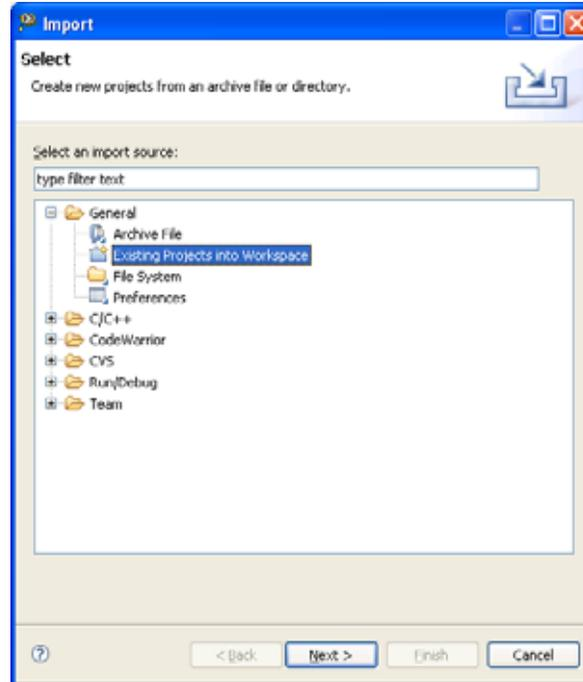

Figure 6. Open the import window in the CodeWarrior IDE
2. Select General Folder > Existing Project into Workspace. Please see Figure 6.